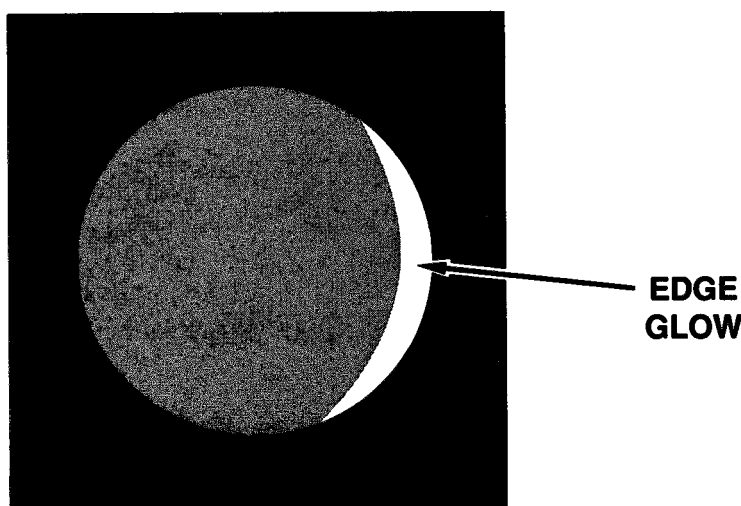

Figure 3-2. Edge Glow.
b. Edge Glow. Edge glow is a bright area (sometimes sparkling) in the outer portion of the viewing area (fig. 3-2). To check for edge glow, remove the binocular from the test ports with power from the battery and block out all light by cupping a hand over the lens. If the image intensifier is displaying edge glow, the bright area will still show up. If edge glow is present, the image intensifier must be replaced by DS.